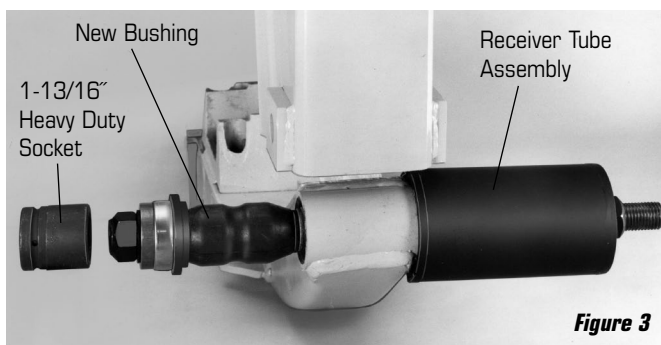

Figure 3
11. Position new rubber bushing on threaded rod and lubricate with a silicone lubricant (Figure 3).
12. Thread rod into receiver tube assembly (Figure 3). Using proper wrench as indicated in Step 1, apply torque to drive nut and force new rubber bushing into beam receptacle. New bushing **must** be centered in bushing receptacle after force has been removed.